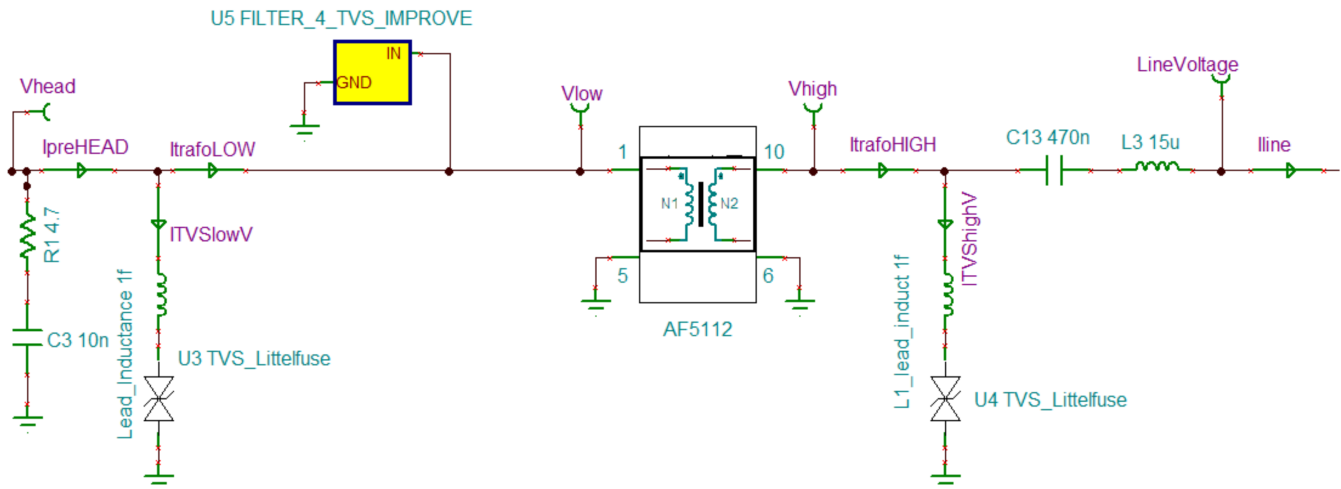

Figure 7. Modem Line-Coupling Circuit
Figure 7 shows the modem line-coupling circuit that consists of a passive shunt filter (C3 and R1), protection transient voltage suppressors (TVSs), line-coupling transformer, and power-line (PL)-side band-pass filter.
Figure 7 includes inductors in series to the TVSs to account for printed circuit board (PCB) parasitics. For more information on the purpose and selection of the line-coupling circuit elements, refer to the AFE031 and application report Analog Front-End Design for a Narrowband Power-Line Communications Modem Using the AFE031 \(SBOA130\).